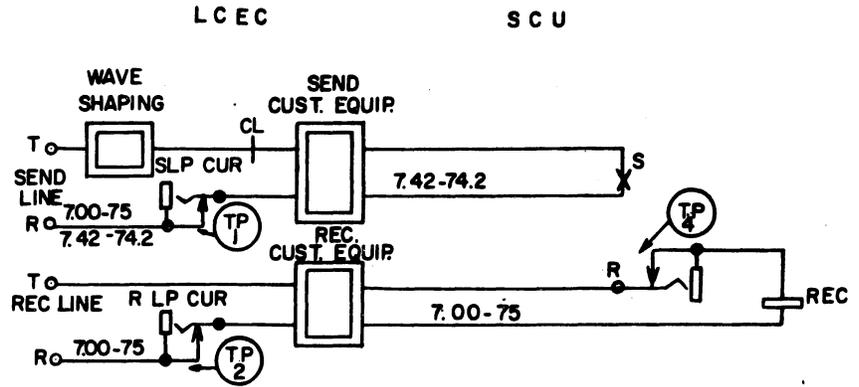

FIG. 1
3.02 Figures 1, 2, and 3 were developed for use with Table "A". They show exactly where the test equipment is placed in relation to the station components under test and where each is located in the over-all station package. Each figure has a notation of the type (unit code - baud rate) of telegraph signals found at that circuit location.